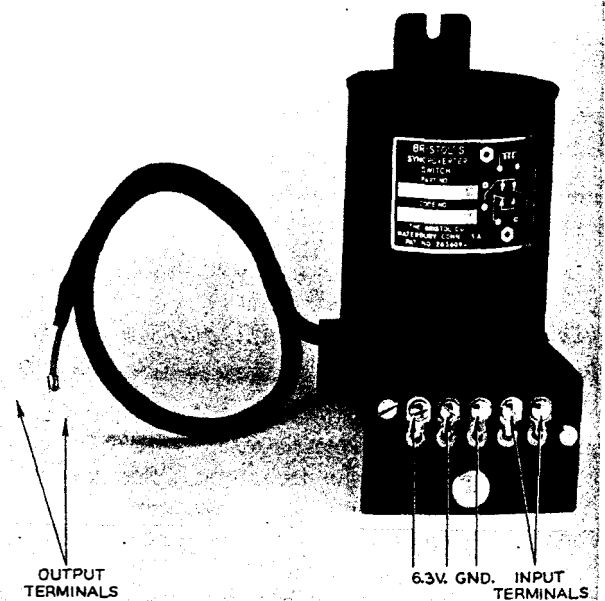

FIGURE 12. SYNCROVERTER SWITCH
**5. Syncroverter® Switch.** (See Fig. 12) With the push button on Dynaprobe depressed to provide a d-c signal, apply test prongs to input terminals of Syncroverter switch (orange and brown wires). If Syncroverter switch is functioning correctly, the balancing motor will move the pen up or downscale (depending upon phase). Reversing the test prongs will cause the balancing motor to move the pen in the opposite direction. If the balancing motor does not move the pen up or downscale, disconnect the orange and brown wires from Syncroverter switch and check again with the test prongs. If the balancing motor still does not move the pen up or downscale with this test, the Syncroverter switch is defective and should be replaced.